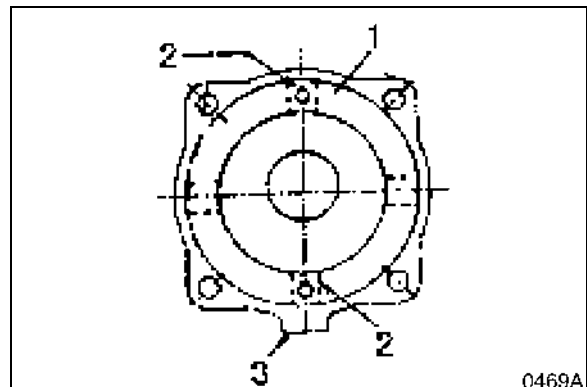

Figure 41
14. Position brake piston (1, Figure 41) in casing. The diagram shows position of four piston grooves (2) in relation to valve-connected side (3), and two 8 mm bolts which should be tightened in an even, progressive rotation.